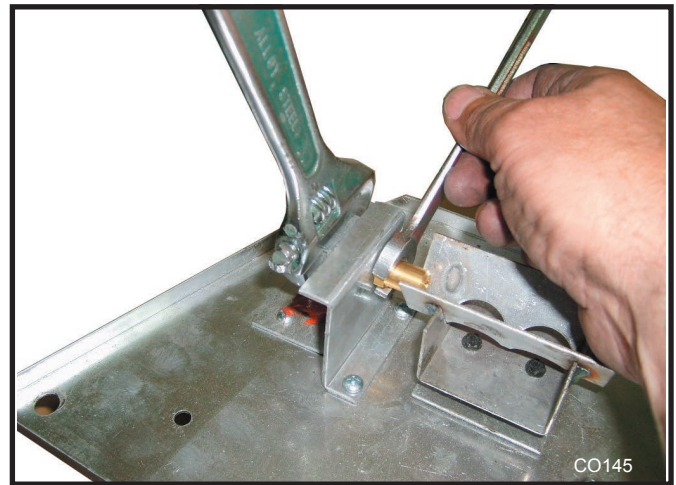

Fig. 76 Use two wrenches to avoid damage to manifold.
3. Remove injector orifice from left burner bracket with a 1/2" wrench. Use a back up wrench to prevent damage to the manifold. (Fig. 76)